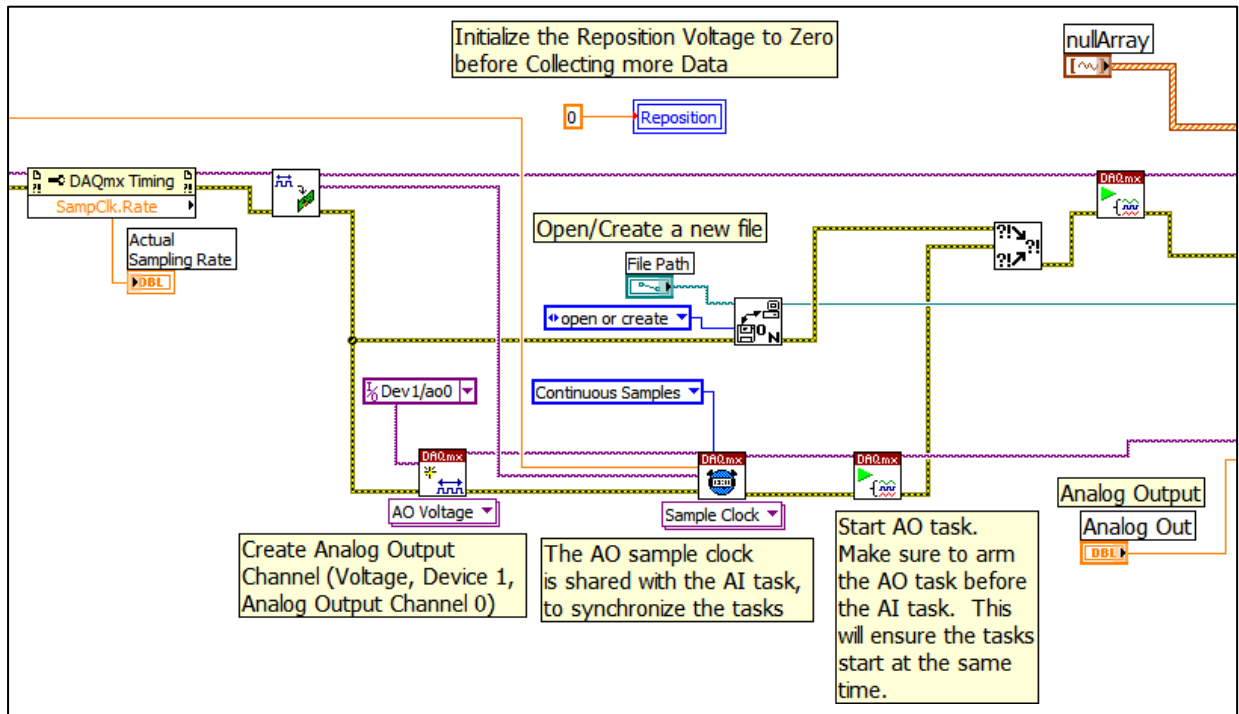

Fig. 3. Segment to Initialize the Analog Output Channel and Synchronize it with the Analog Input Channels
- Note also in this section that the *data file* is *opened* (or created) before the data acquisition is started. The block diagram for this section of the block diagram is shown in Fig. 3.